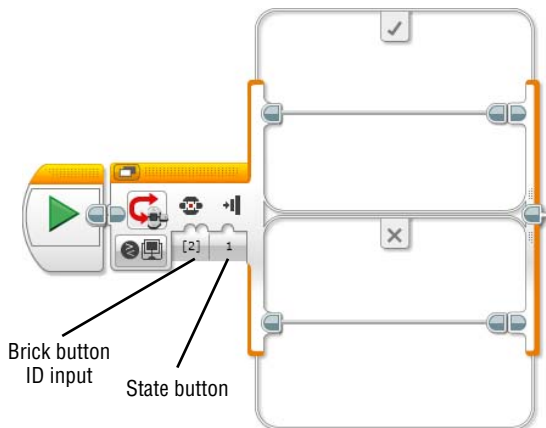

Figure 6-23: The Brick Buttons – Compare mode
Let's see the example with the Compare mode and the brick buttons. Once you choose this mode, you will find that the beginning of the block will change like in Figure 6-23. Wait, doesn't this look familiar? This mode is just like the Compare mode in the Wait block. You select one or more numbers in a range of 0 to 5 for the Brick Button ID input, and choose the button's status of released (0), pressed (1), or bumped (2) for the State input.